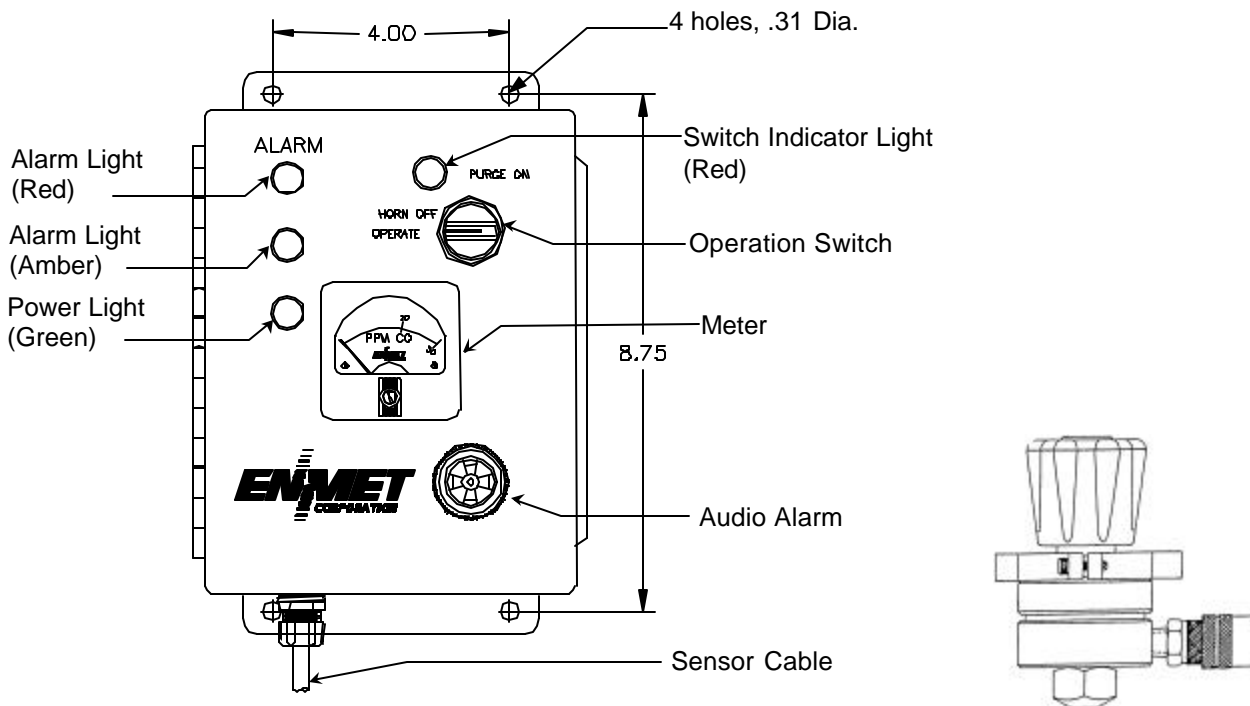

Figure 1: Electronics Control Unit
The ENMET ISA-RAL-M (See Figure 1) monitors the carbon monoxide in compressed air used for human breathing. If the CO concentration exceeds any predetermined levels, the ISA-RAL-M will trigger audio-visual alarms and activates any associated equipment to alert personnel in potential danger.
Figure 1 shows the control unit which contains the electronics circuitry and controls. Main features are listed below.
1. Choose an appropriate location for mounting the electronics control unit and sample head assembly. The mounting dimensions are given in Figure 1. Locate the sampling point upstream from the workers such that the respiratory air reaches the carbon monoxide sensor **before** it reaches the workers. Locate the control unit, or an auxiliary visual alarm actuated by the instrument's relay contacts, in an area where it can easily be seen by workers using the breathing air.